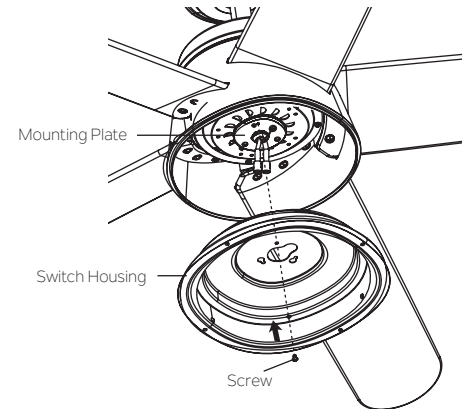

Fig. 20
Step 2. Place the two slot holes on the switch housing over the 2 screws previously loosened from the mounting plate. Rotate the switch housing until it locks in place at the narrow end of the key holes. Secure by tightening the 2 screws previously loosened and the one previously removed. (Fig. 20)